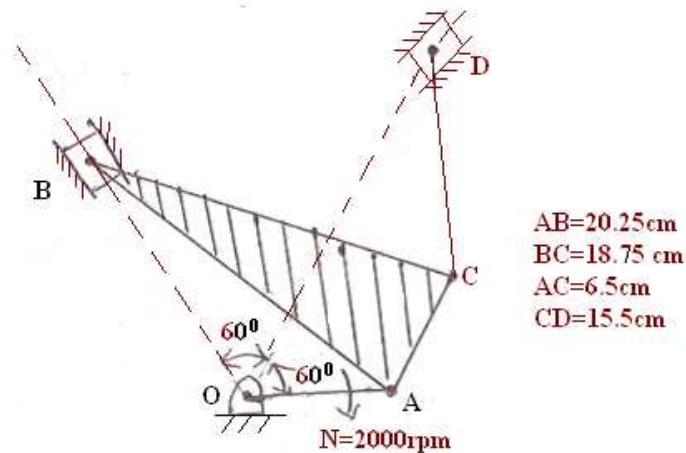

Figure 3
- Find the velocity of point C and the angular velocity of link 3 of the push-link mechanism shown in the figure 3. Link 2 is the driver and rotates at 8 rad/s ccw. Use instant centre method. [16]